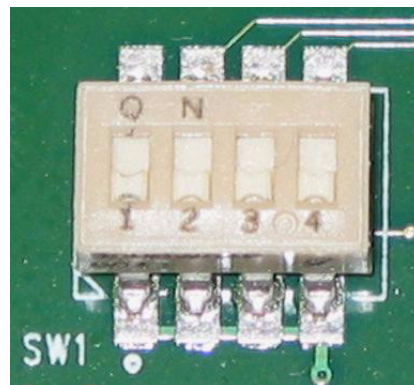

Figure 3. RTHC Dip Switches
3.08 Figure 3 shows the RTHC configurable dip switches in the default positions. Switches 1 and 2 are set at the factory and cannot be changed. Switch 3 sets the security and switch 4 turns on the second input. See page 29 for more details.